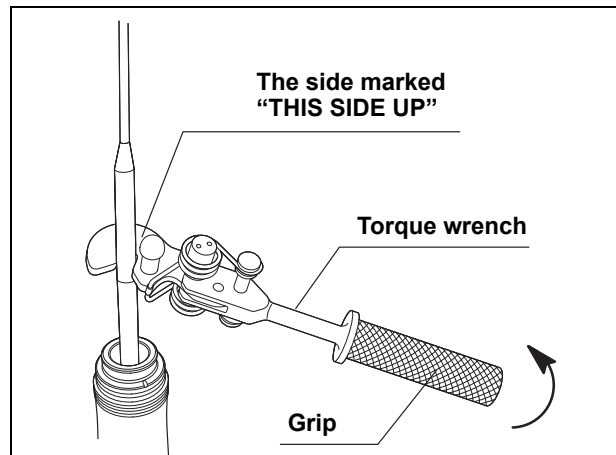

Figure 7.14
4. Loosen the screw section by attaching the torque wrench (marked “This side up”) to the notch of the probe and turning it counterclockwise. Then detach the probe from the transducer (SonoSurg-T2L-GE/SonoSurg-T2L-GE-C) manually (see Figure 7.14).